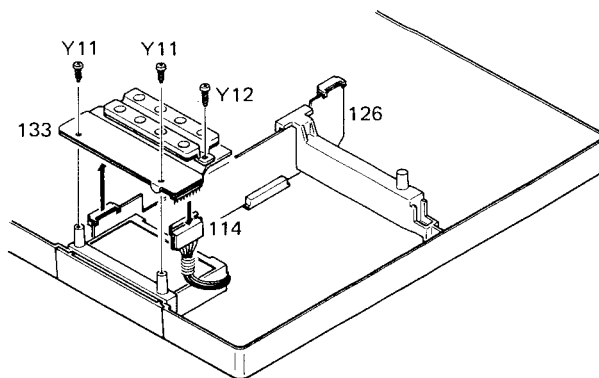

Fig. 3
C. Removing printed circuit boards (cf. Fig. 3 to 8)
1. Remove the three screws (2 marked Y11 and 1 marked Y12) and detach the 10-pin socket (114) from the connector PCB (126). Then, you can remove the FM "touch" tuning PCB (133). (cf. Fig. 3)